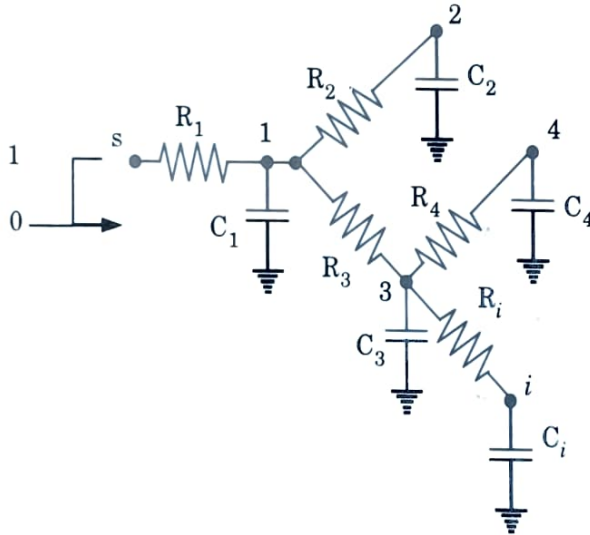

Fig. 2.5.1. Tree structure RC network.
1. Consider the resistor-capacitor network of Fig. 2.5.1.